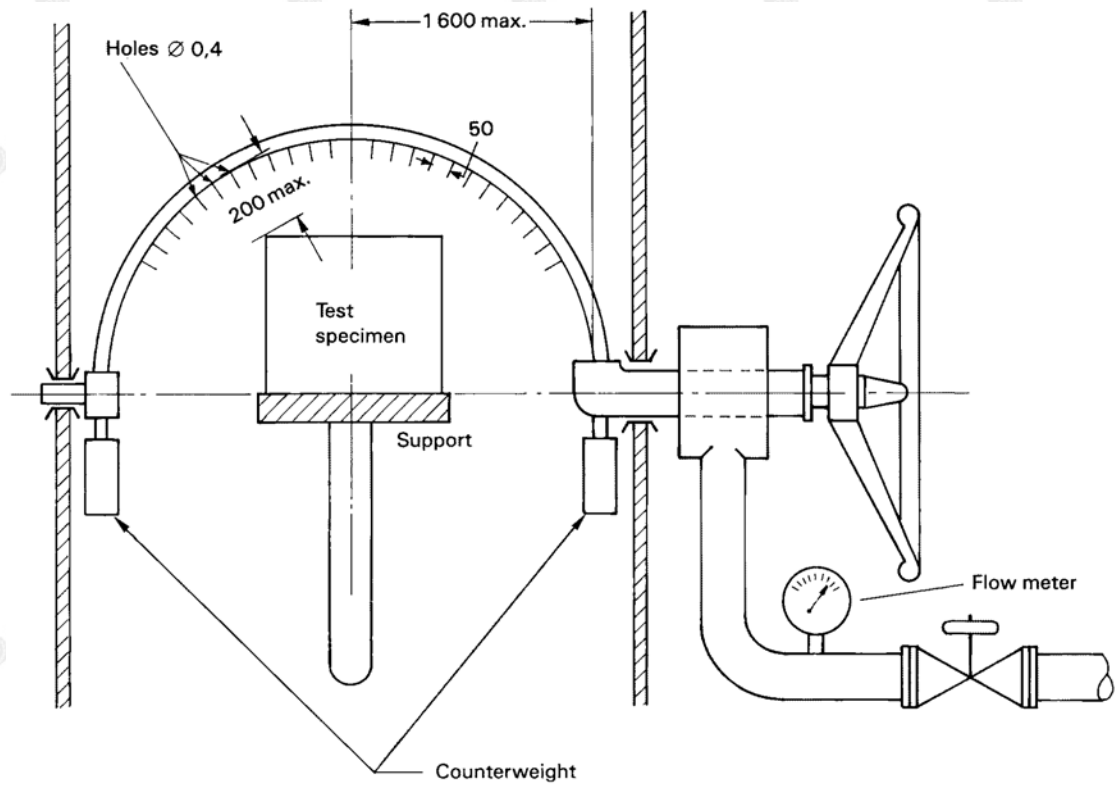
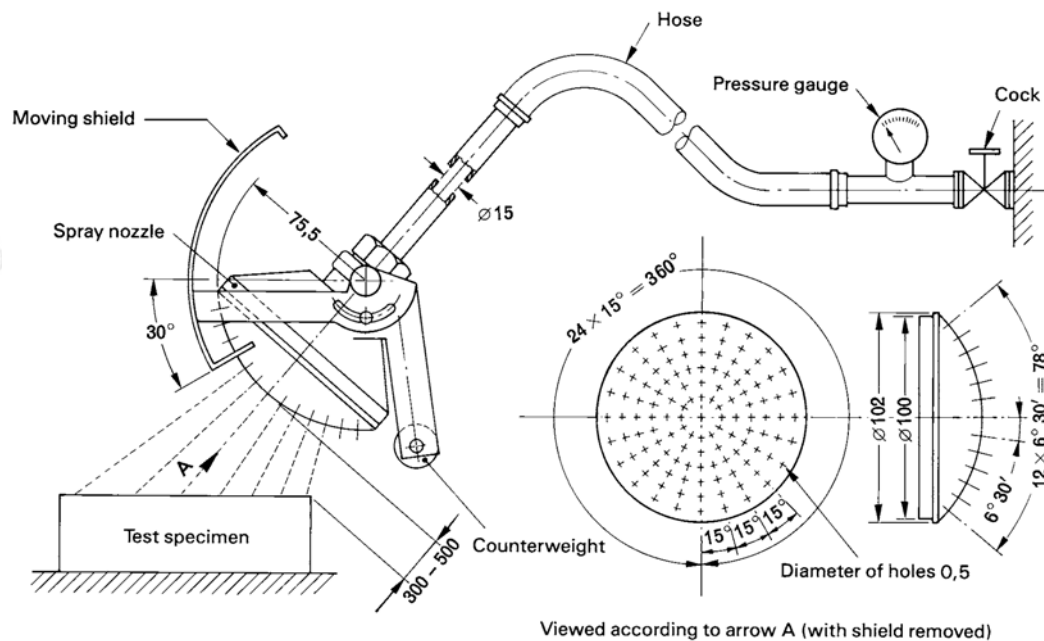

Figure 4
Figure 5
The test is made using one of the two test devices described in figure 4 and in figure 5 in accordance with the relevant product standard.
a) Conditions when using the test device as in figure 4 (oscillating tube):
b) Conditions when using the test device as in figure 5 (spray nozzle):